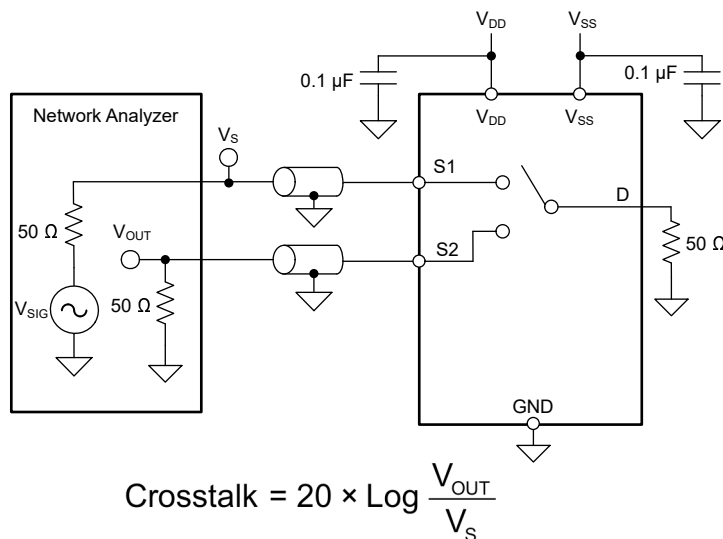

图 6-11. Crosstalk Measurement Setup
Crosstalk is defined as the ratio of the signal at the drain pin (D) of a different channel, when a signal is applied at the source pin (Sx) of an on-channel. 图 6-11 shows the setup used to measure, and the equation used to calculate crosstalk.